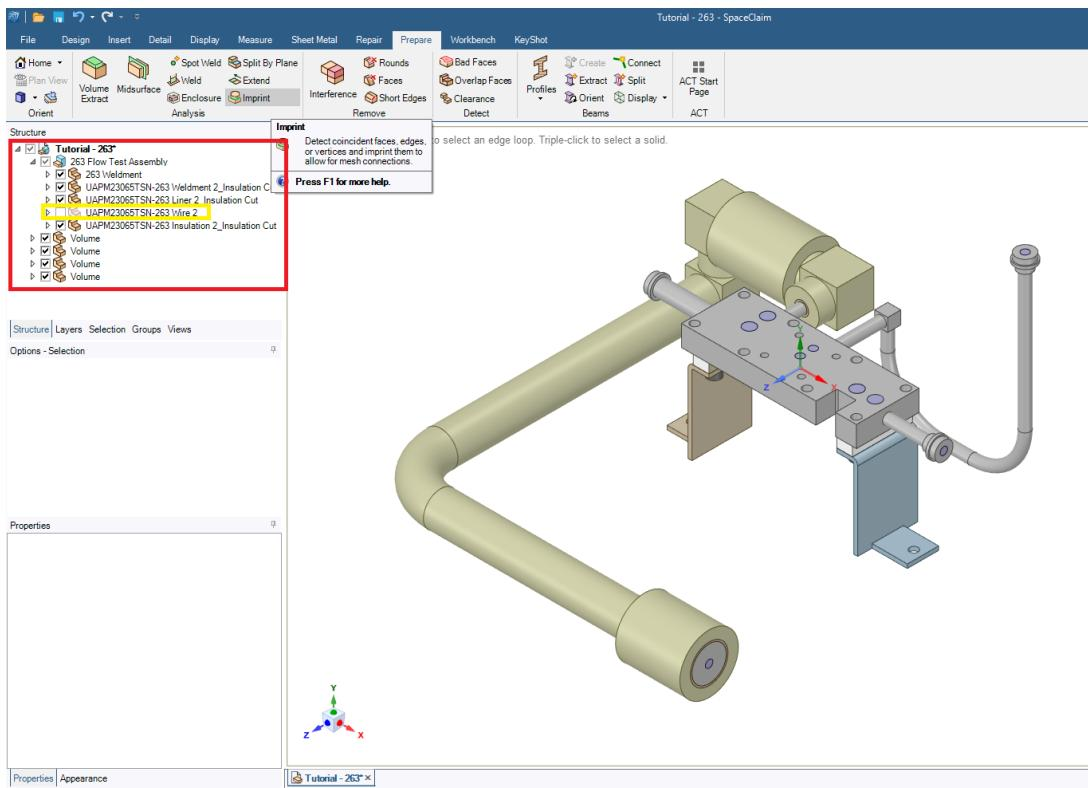

Figure 1.39:
4. The final stage of any simulation model preparation is to use the Imprint function one last time with all components (except the Heating Element shown in Fig. 1.39) to make sure that all necessary edges are captured. This is a very important step because in the simulation software everything needs to be very strictly defined and if an edge was not imprinted then it could cause an error, make defining that region difficult if not impossible, or even produce inaccurate results.